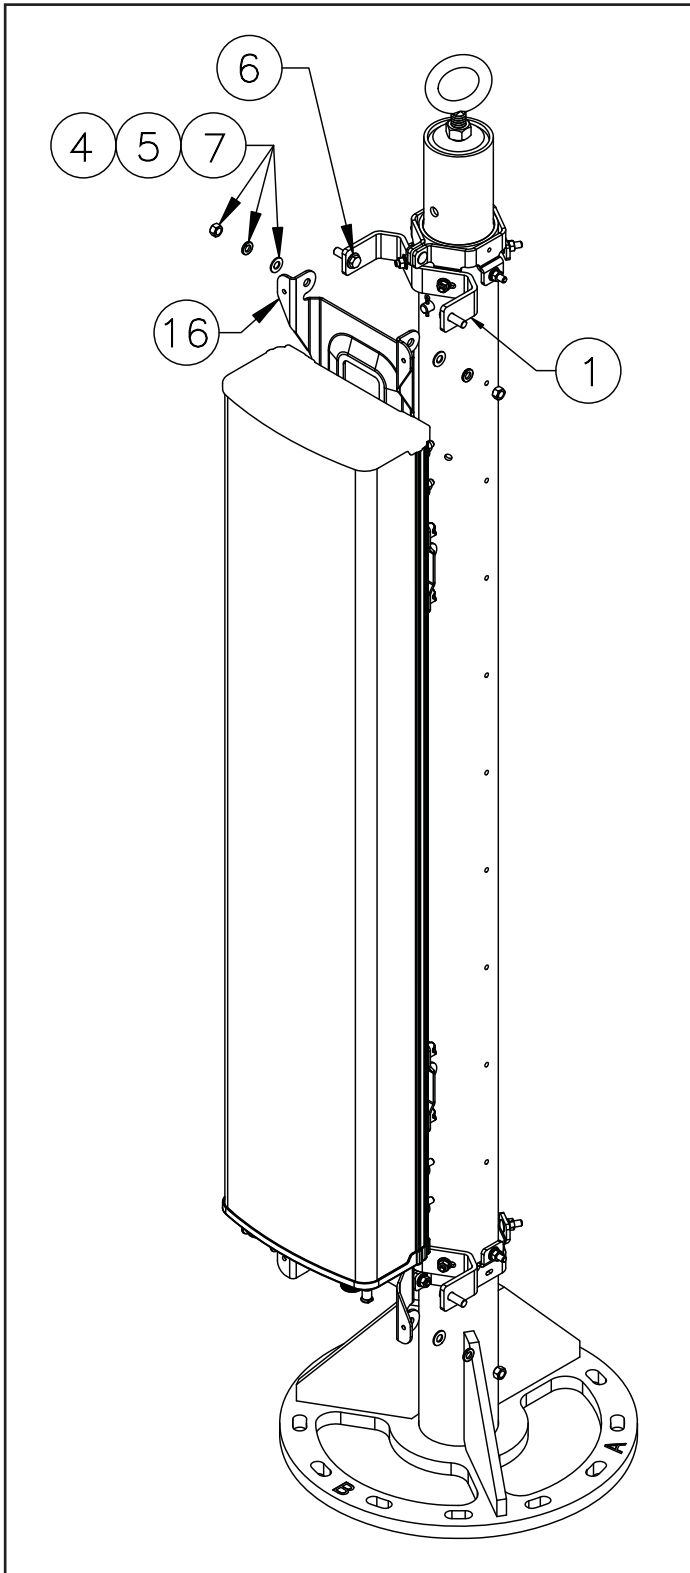

Figure 12. Attaching Antenna to DB800TREE Stand.
9. Attach the antenna to the bracket on the stand using the hardware provided. Tighten all hardware (Figure 12).